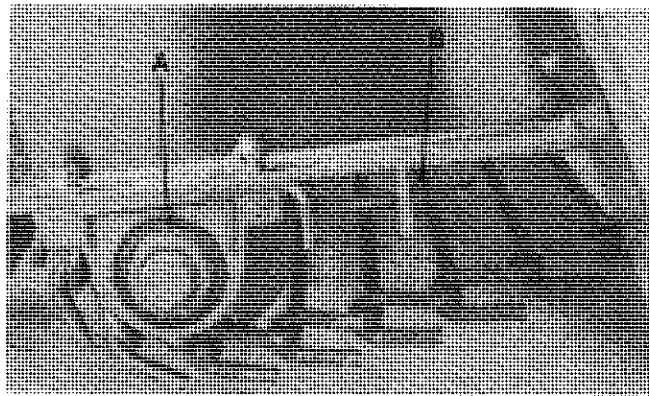

FIGURE 22 - BED DRAPER CHAIN
The bed draper chain (see figure 22) is tensioned by loosening two pillow block bearings (A) immediately behind lifter wheels. Adjust both sides equally with take-up bolt (B), so the draper chain sags approximately 1". Make certain tension is equal on right and left hand sides. If end of adjustment is reached, loosen draper chain and remove link.